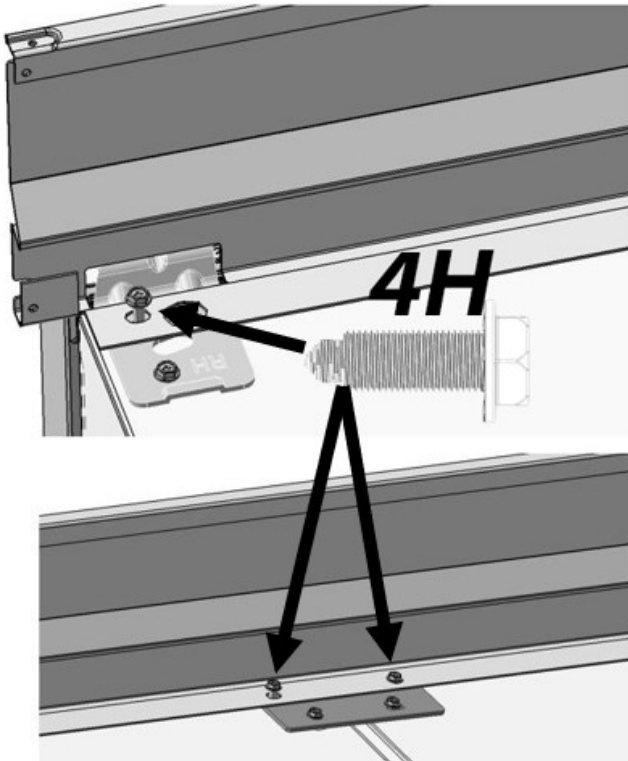

Figure 18
13. a. Remove front outer hinge screws common on both sides of the dual installation, as well as the two 4H screws that fasten the 1H Tie Bar in Figure 18.
- c. Install top trim by fastening four 4H screws along the base of the trim with a 5/16" socket wrench (Figure 18).